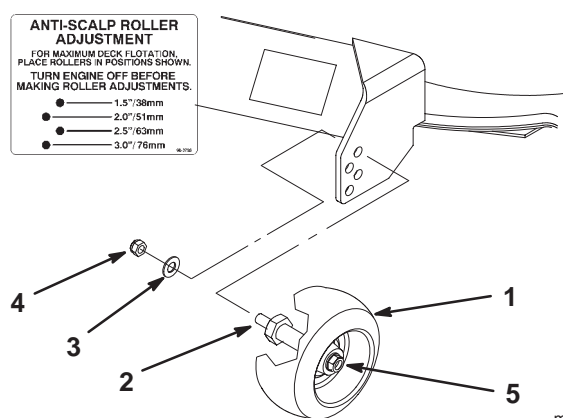

Figure 12
3. After adjusting the height-of-cut, remove the nut and washer while holding the stud with a wrench (Fig. 12).
Note: Do not remove the wheel nut and washer (Fig. 12).
4. Select a hole so that the gage wheel is positioned to the nearest corresponding height-of-cut desired (Fig. 12).
5. Install the stud nut and washer (Fig. 12).